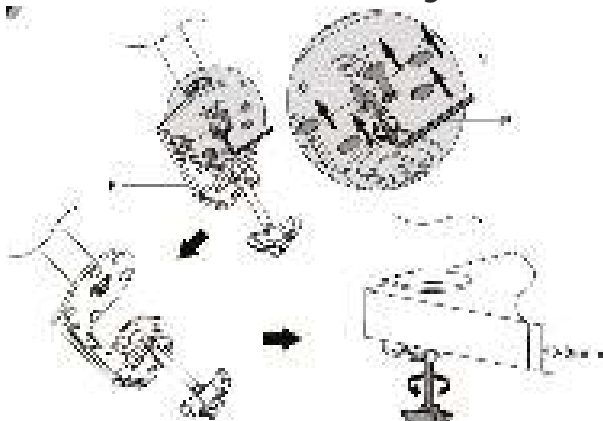

Figure 2
1. Align the holes in the **Desk Clamp (F)** with the holes in one end of the **Pole (G)**. (Figure 2)
2. Insert three **Pole Mounting Screws (O)** through the holes, located in the top of the **Desk Clamp (F)**, and into the **Pole (G)** and tighten, using the **4 mm Hex Key (P)**, to complete the **Desk Pole Assembly**.